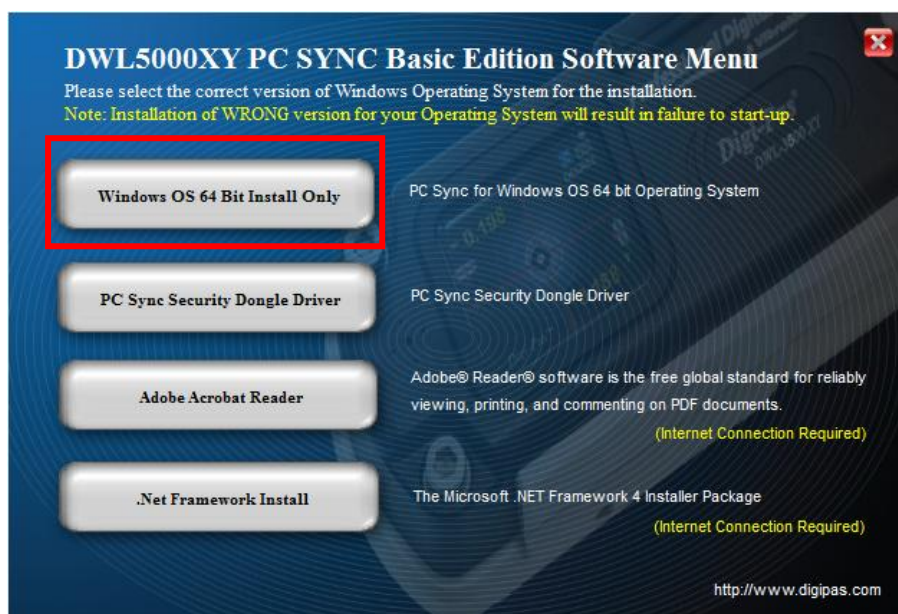

Figure 15. Interface of the software installation page
1. DWL5000XY or DWL5500XY PC Sync Software Basic Edition CD comes together with the tilt sensor module package. Insert the PC Sync Software CD to the PC, auto-run screen appears as in Figure 15. Click on “Windows OS 64 Bit Install Only” button to start the installation.